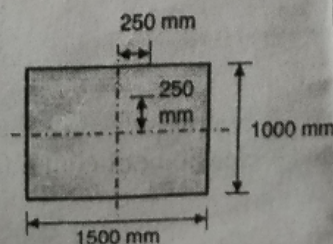

Figure 02
- B) A rectangular pier is subjected to a compressive load of 450 kN as shown in figure 02. Find stress intensities on all the four corners of the pier.